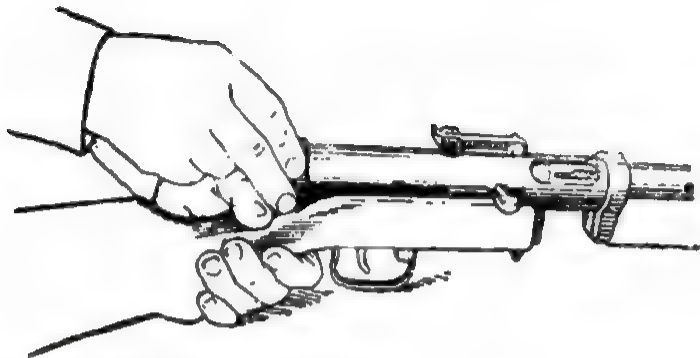

Figure 34. How to screw off the back plate.
2. **Screw off the back plate** (figure 34). Screw off the back plate with your right hand while holding the submachine-gun by the comb of the stock with your left hand. While doing this, hold the back plate in place with your left thumb to prevent damaging the thread end from the action of the recoil spring.